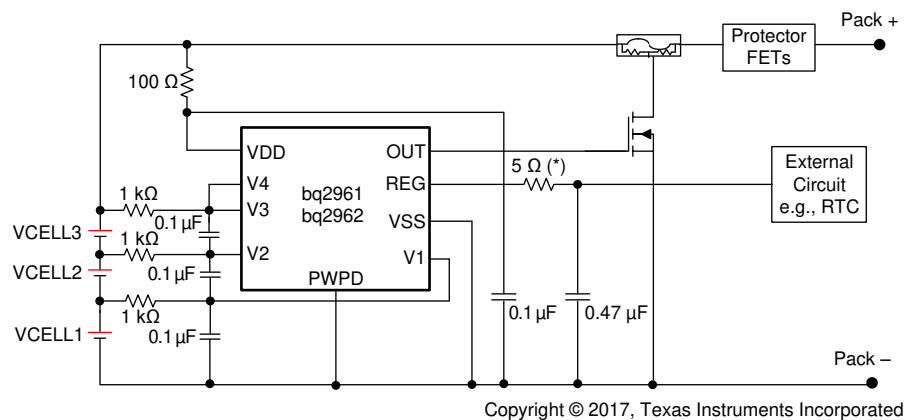
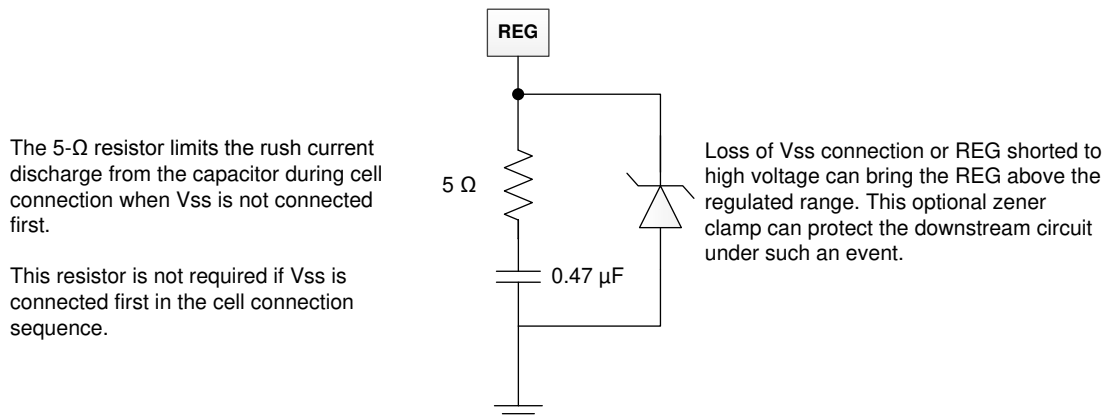

Figure 17. 3-Series BQ2961 and BQ2962 Schematic
Figure 18. 5-V Zener Diode
1. If the VSS pin cannot be connected first, it is required to add a resistor of a minimum of 5 Ω to a maximum of 10 Ω (a 5- Ω resistor is used in the reference schematic, Figure 17) in series with the REG capacitor. When VSS is floating, the REG capacitor always charges up to the VDD voltage. When VSS is finally connected, the REG capacitor will be discharged. Adding a small resistor in series reduces the current strength and avoids any potential damage to the REG pin. The 5- Ω resistor can be placed in series with the REG connect circuit (as shown in Figure 17) or in series of the REG capacitor (as shown in Figure 18). Placing the resistor in series with the REG circuit results in a small drop of V_{REG} (for example: max loading of I_{REG} mA with a 5- Ω resistor will drop 5 mV on V_{REG}), but such a connection can protect against rush current discharge from a REG capacitor or an external filter capacitor connected to the REG pin. Placing the resistor in series with the REG capacitor is an alternative to avoiding an additional drop in V_{REG} if the filter capacitor used by the external circuit is much smaller than the REG capacitor.
3. The cell should be connected to the lower V_n pin; the unused V_n pin should be shorted to the (V_{n-1}) pin. See Figure 17 for details.
4. A zener diode can be added to the REG pin to VSS, as shown in Figure 18. This is recommended to protect the circuit connected to the REG pin if floating VSS in the field is a risk concern. When VSS is floating (during cell connection when VSS is not connected first or in a system fault with a broken BAT– wire), the REG voltage always pulls up to VDD. In a 4-series configuration, the REG voltage can reach approximately 16 V with VSS floating. Adding a zener diode clamps the REG voltage to a safe level for the external circuits connected to the REG pin. Having the zener diode can also protect the external circuits if the REG pin is shorted to the OUT pin or any other high-voltage output terminal. If a zener diode is used, TI recommends putting the diode on the battery side with the BQ296xxx device to allow protection on the REG pin, as well as the circuit connected to REG under the floating VSS condition. The resistor in series with the REG pin is not required in this case.